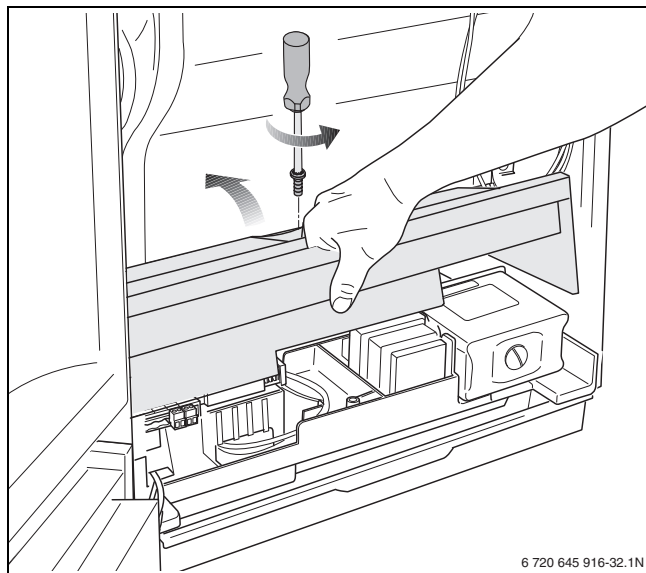

Fig. 35 Removing the cover
- ▶ Remove the screw to release the cover over the electrical connections and pull the cover upwards (→ fig. 35).